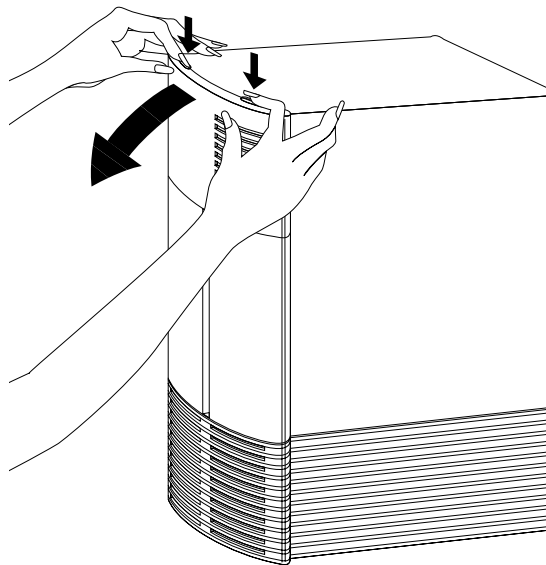

Figure 2 Removing the Plastic Cover of the Indigo Chassis
1. Remove the Indigo's plastic front cover. (See Figure 2).
- Press down on the tabs and pull the panel away from the chassis, as shown in Figure 2.